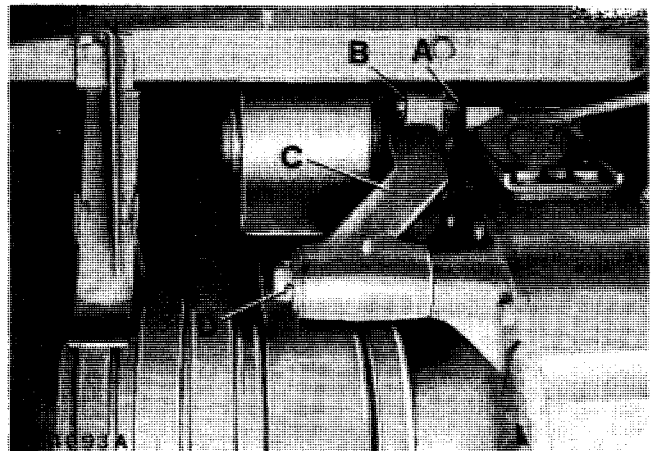

Fig. 15 – Removing Cutting Platform Throw-Out Device
Using a chisel remove cotter pin (D, fig. 15) so that later, connecting link (A) can be removed from arm (C).
Remove cotter in (B, fig. 15) and remove arm (C) to the left and at the same time disconnecting link (A) from arm.